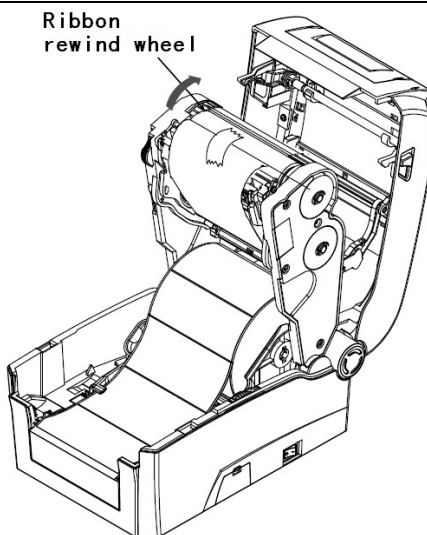

Figure 2.5.4
- 3) Lead the ribbon from beneath the print head module, stick the front of ribbon onto the empty ribbon axis, and turn the ribbon rewind wheel to tighten the ribbon (for the paper roll and ribbon that have been installed, see figure 2.5.4);